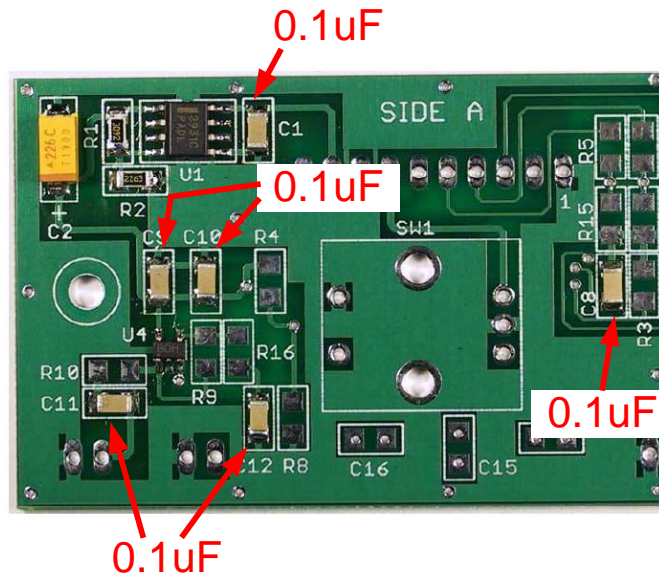

Figure 5. 0.1uF Capacitor Locations
- Remove the strip of 0.1uF capacitors from the top compartment. The strip is **CLEAR**. Remove only 6 of parts. The rest will be used on Side B. Refer to **Figure 5**. Install these at: